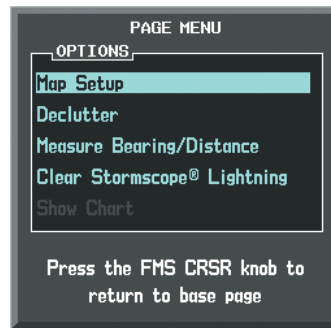

Figure 6-45 Page Menu
- 2) With 'Map Setup' selected (Figure 6-45), press the **ENT** Key.